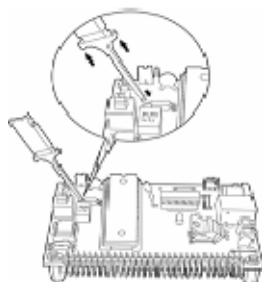

Fig.2-10
- 3-3. Place the metal prongs on a metal connector on the testing board and release the fingers so that the prongs can grip the metal connector (Fig. 2-10).